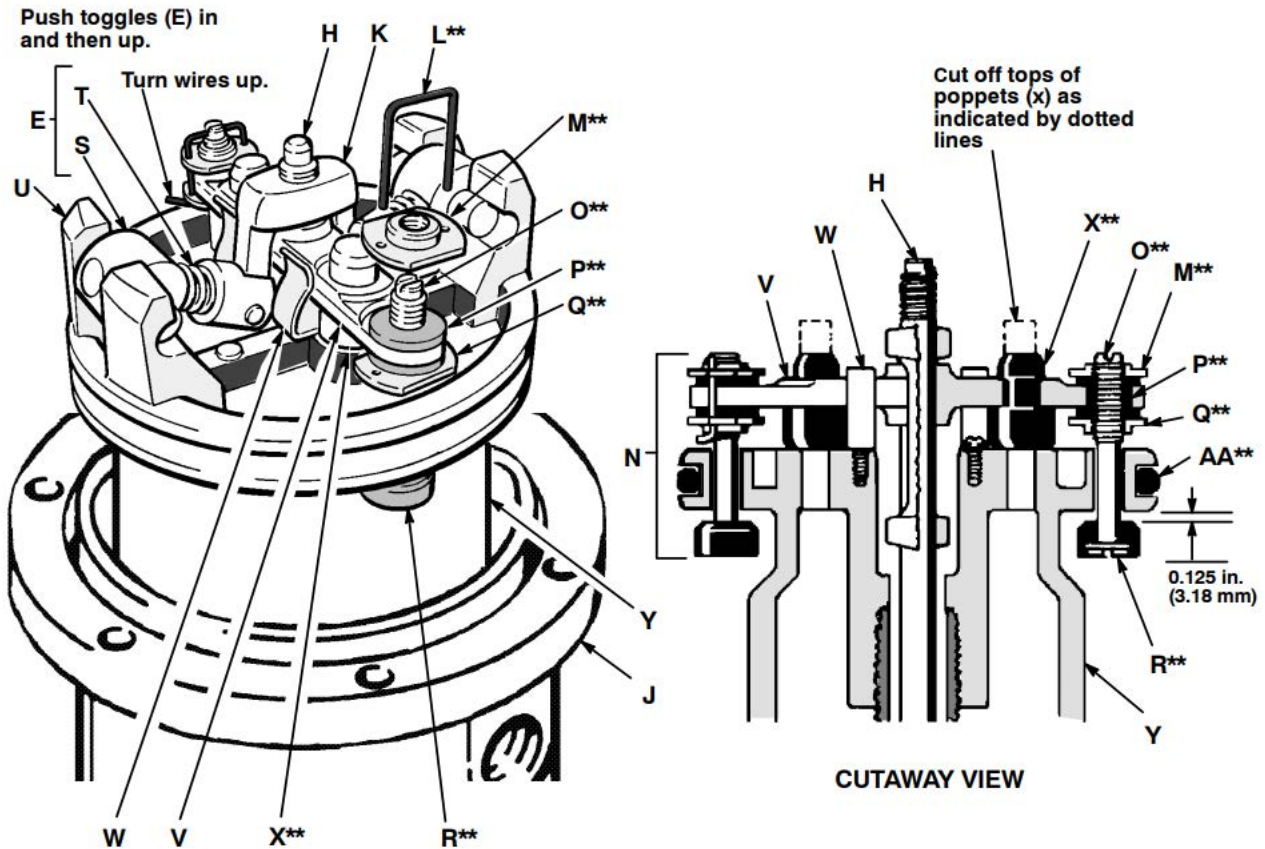

FIG. 4: Servicing the Air Motor
Always keep fingers clear of the toggle assemblies (E), to avoid pinching or amputating them. See FIG. 4 on page 9.
5. Use a screwdriver to push down on the trip rod yoke (K) and snap the toggle assemblies (E) down. See FIG. 4 on page 9. Remove the lockwires (L) from the adjusting nuts (M and Q) of the transfer valves (N). Screw the top nuts (M) off. Screw the valve stems (O) out of the grommets (P) and lower adjusting nuts (Q). Take the valve poppets (R) off the stems and squeeze them firmly to check for cracks.
6. Grip the toggle rockers (S) with a pliers. Compress the springs (T) and swing the toggle assembly (E) up and away from the piston lugs (U), and remove the parts. Check that the valve actuator (V) is supported by the spring clips (W), but slides easily into them. See FIG. 4 on page 9.
7. Remove the trip rod yoke (K), valve actuator (V) and trip rod (H). Check the exhaust valve poppets (X) for cracks.
4. Be sure the o-rings are in place. Slide the piston rod down through the throat bearing and lower the piston (Y) into the air motor base (J).
5. Pull the exhaust valve poppets (X**) into the valve actuator (V) and clip off the top part shown with dotted lines. See FIG. 4.
6. Install the transfer valve poppets (R**) onto the valve stems (O**), then reassemble the valve stems (O**), bottom adjusting nuts (Q**), grommets (P**), and top adjusting nuts (M**) on the piston (Y). Assemble the trip rod (H), valve actuator (V), trip rod yoke (K) and toggle assemblies (E) on the piston. See FIG. 4.
7. Set gap on inlet valve (N) using the 125 in. (3.18 mm) side of gauge 171818. Rotate valve stem (O**) until snug against gauge, then back off until valve stem slot is lined up with wire holes in valve nut (M**) (do not back off more than 1/2 turn). See FIG. 4 on page 9. Install lockwires (L**) in the adjusting nuts M** and Q**).
8. Snap the toggle assemblies (E) to the up position. Reinstall the cylinder (G) and hold the trip rod (H) in place with tool 207579. Apply a medium strength thread locking compound to the threads of the trip rod (H) and assemble the cap nut (F) to the trip rod (H). Torque the cap nut (F) to 60 lb-in (6.8) N-m). Install cap nut (F) into cylinder (G).